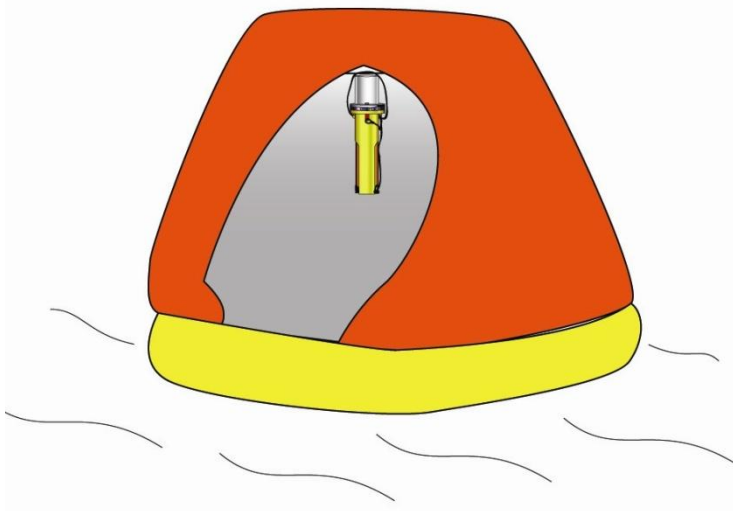

Figure 7
1. If no pole is available, or if you prefer, you can suspend the SART from the canopy support using the additional lanyard loop provided (see Figure 7).